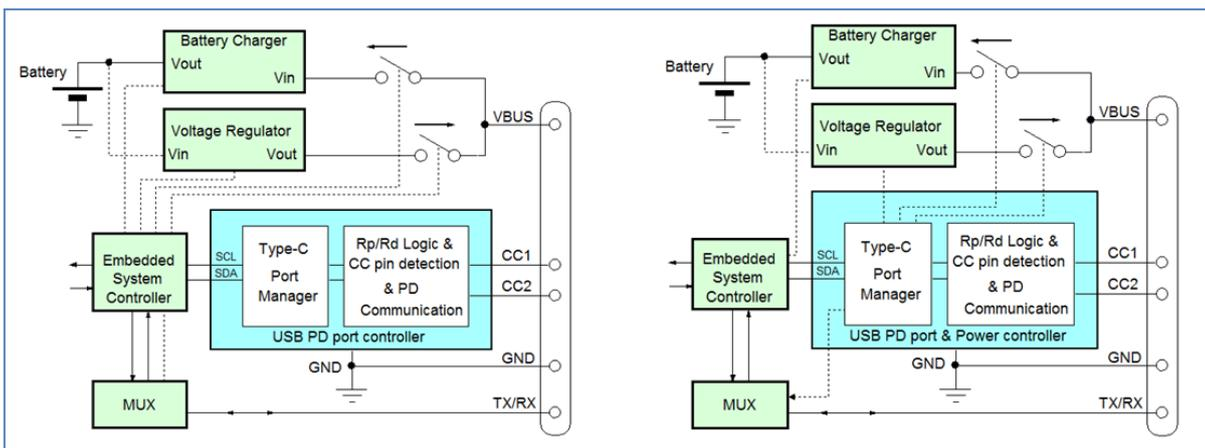

FIGURE 35
All devices include the full type-C transceiver including Rp and Rd resistors. In all cases, the Type-C controller will work in combination with an Embedded system Controller (EC), which communicates with the Type-C controller via I2C bus. Figure 35 shows two possible ways to design a typical DRP solution like a Mobile Phone :
Figure 35 left side shows a DRP solution which makes use of a USB Type-C PD port controller. The controller takes care of all Type C port detection and communication and stores the information in internal registers. The embedded system controller will read the registers and makes the decisions, activating MOSFET switches and controlling voltage regulator for Source role or battery charger for Sink role. In this case the USB PD port controller can be RT1711H, RT1715 or RT1716.
Figure 35 right side shows a DRP solution which makes use of a USB PD Port and Power controller. This controller includes functions like external MOSFET control, voltage regulator control and data MUX control. The embedded system controller still reads the registers and makes the decisions regarding power role, but the commands are all send to the PD power controller which activates the power path and control functions. VBUS Protection functions like Bus over voltage and over current can be executed immediately without EC intervention. In this case the USB PD port controller can be RT1711P.